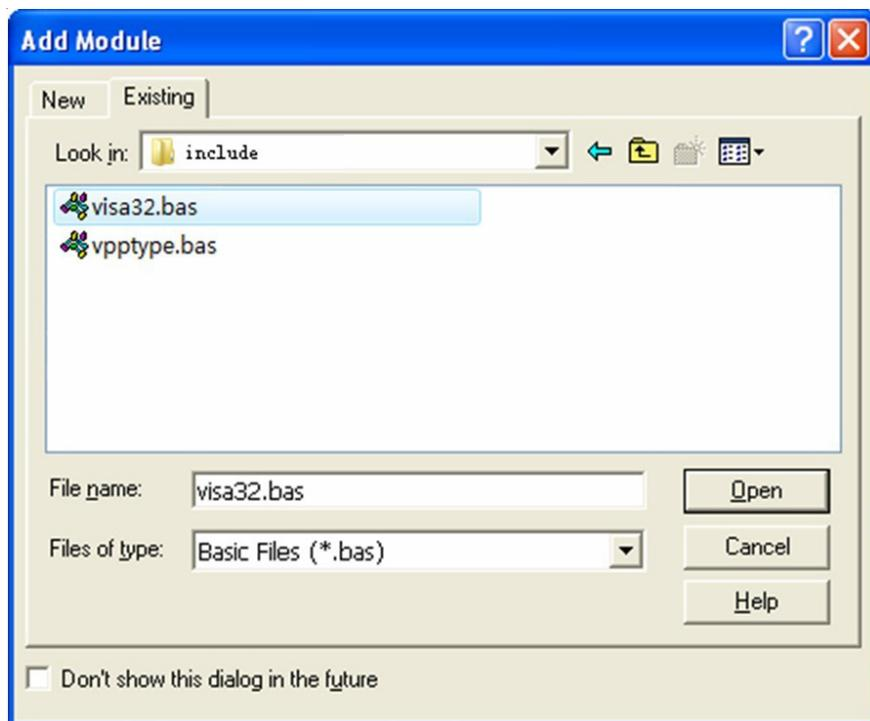

Figure 4-2-1
2. Choose Project-> Add Module->Existing; find the visa32.bas file in the Add Module under the path of NI-VISA: C:\Program Files\IVI Foundation\VISA\WinNT\include, and then add it. See figure 4-2-1.